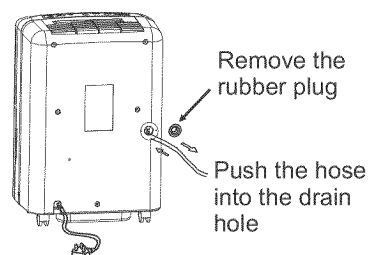

Fig.8
- Remove the rubber plug from the back of the unit (see Fig.8).